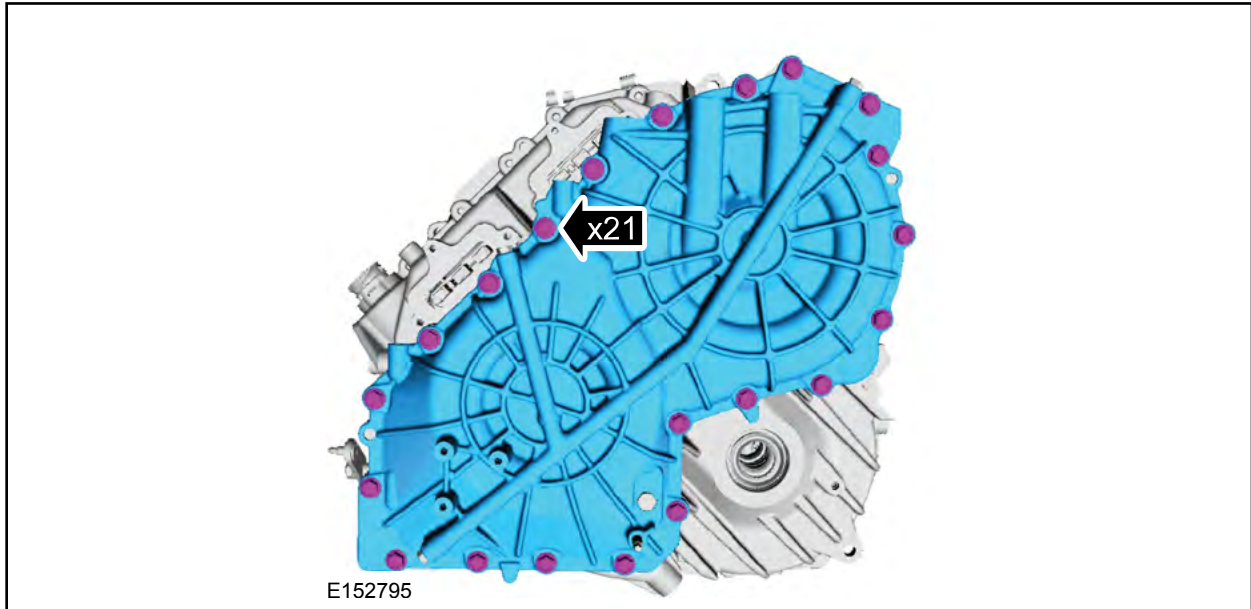

FIGURE 46
41. Install the *new* transmission case end cover assembly and the bolts. See Figure 46.